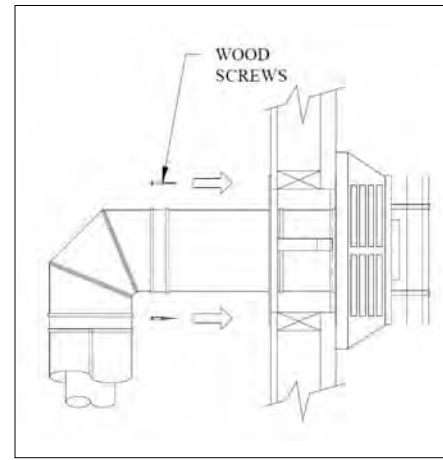

Figure 39: Installation of Wall Fire-stop.
Step 7. Slide the Wall Fire-stop up to the wall surface and attach with screws provided (see Figure 39).